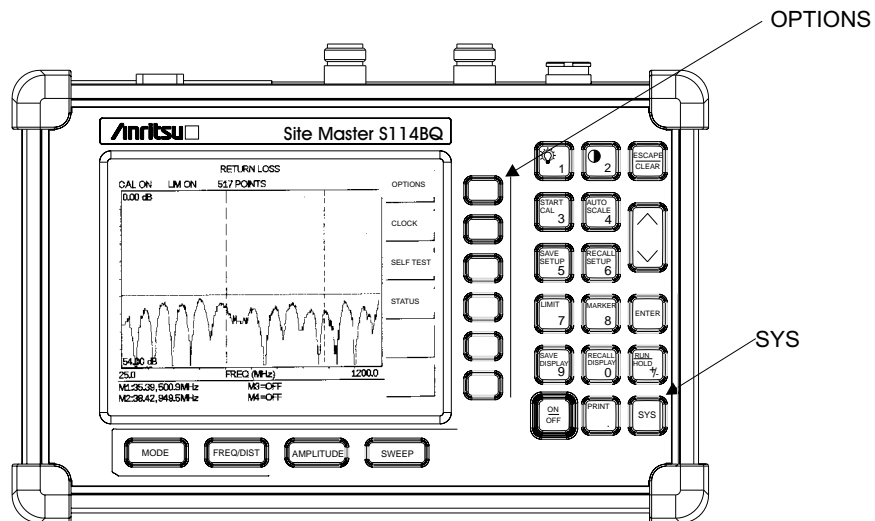

Figure 3-16. SYS Key and OPTIONS Soft Key
Step 3. Press the **SYS** key and the **OPTIONS** soft key (Figure 3-16).